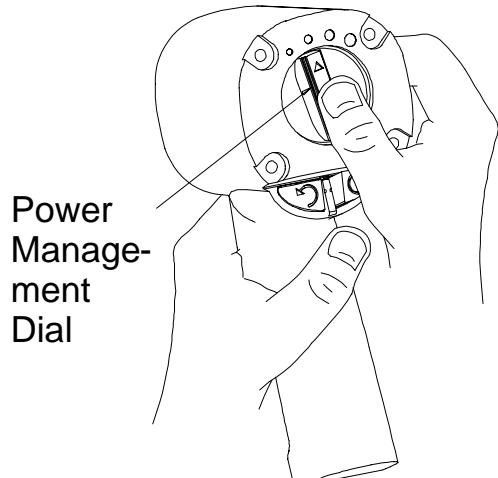

Figure 3
- Remove the Motor Assembly from the Housing (20) by pushing on Power Management Dial (41) from the back of the Housing. See Figure 3.